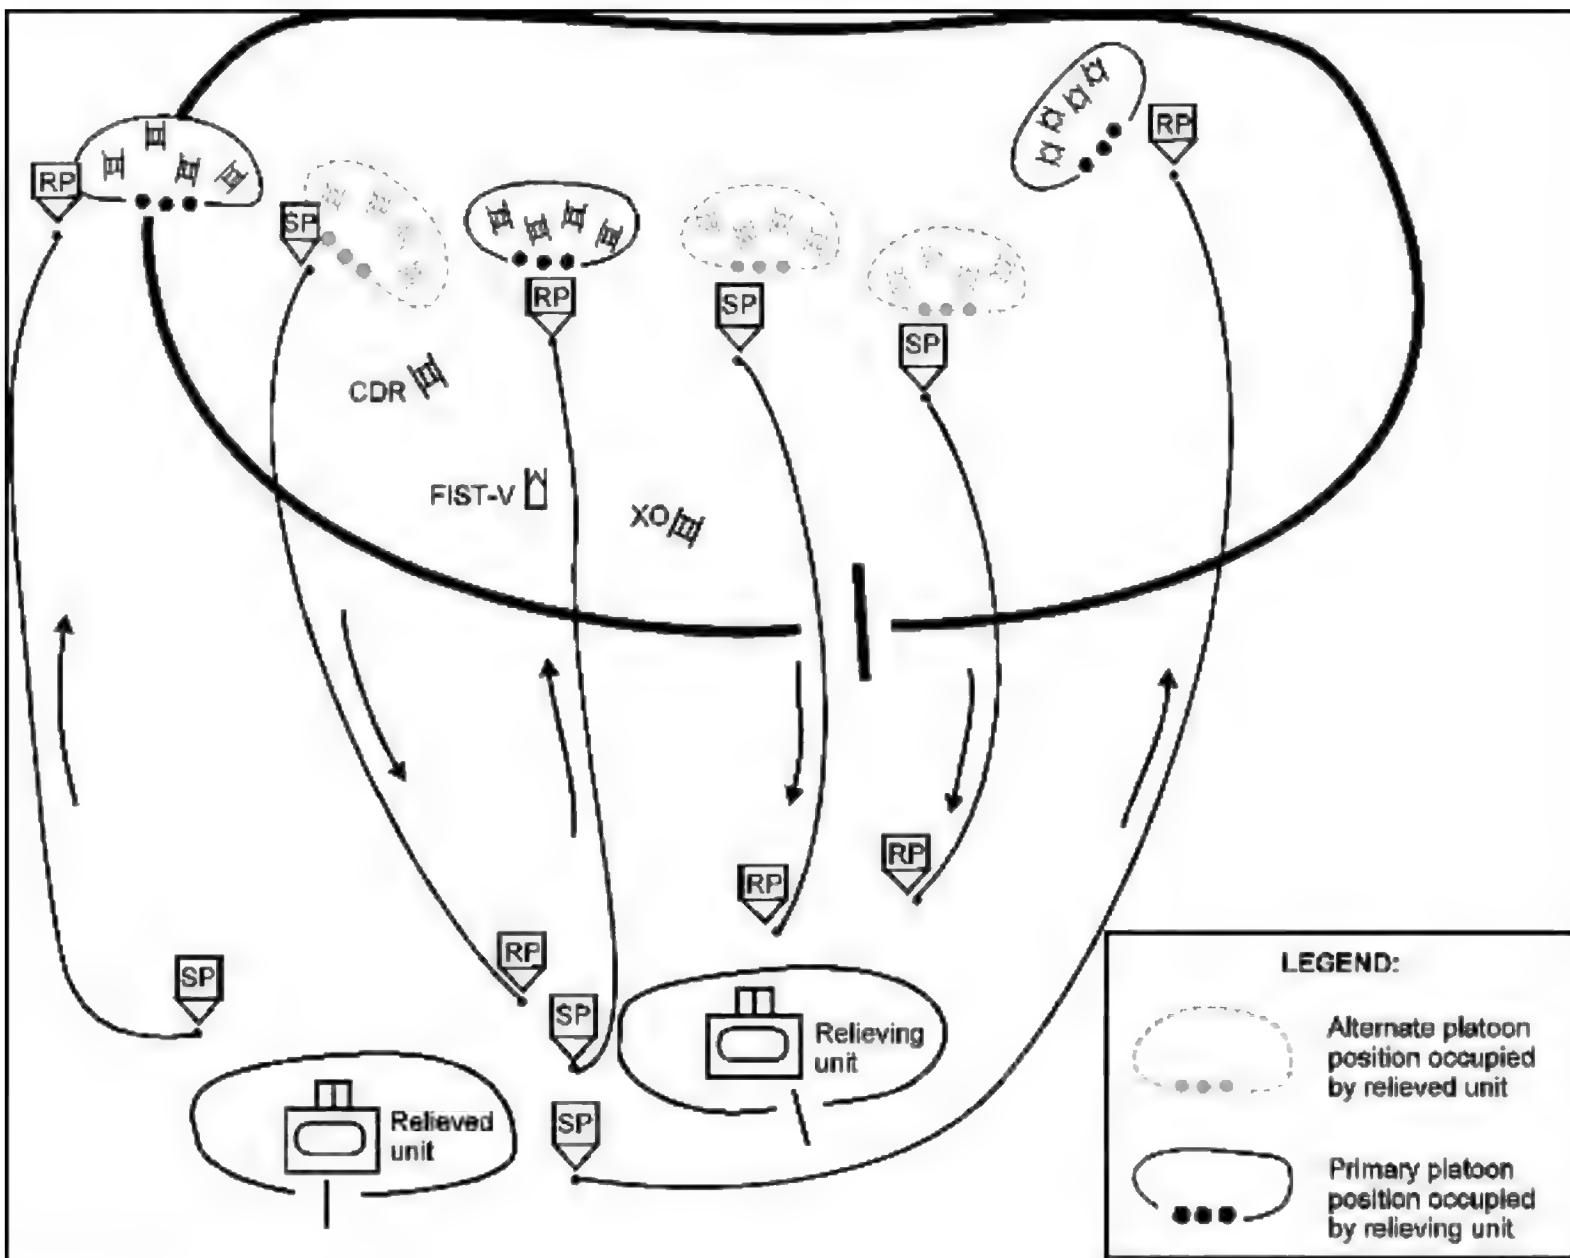

Figure 5-6. Example relief in place by alternate platoon positions.
- By alternate element position. The relieving element occupies a position separate from that of the relieved element. See Figure 5-6 for an illustration of this relief